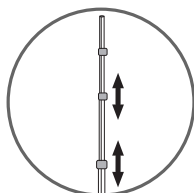

fig.1
2. Extend the pole so it is fully extended. and tighten the clips - fig.1